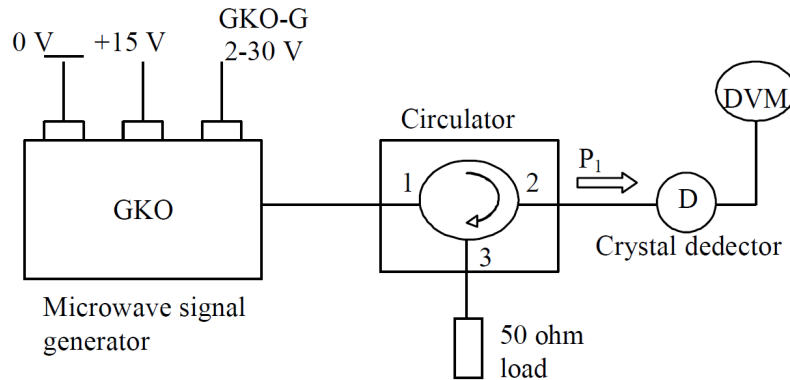

Figure 4: Measurement of the microwave source's output power ( $P_1$ ).
**1.1** Set up the experimental apparatus as shown in Figure 4.